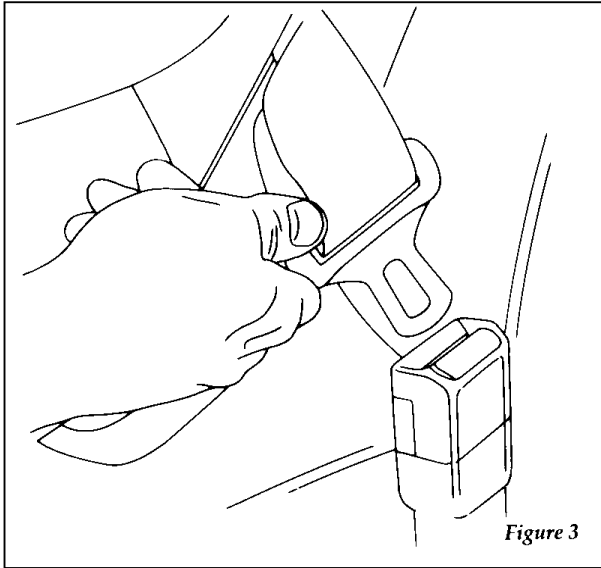

Figure 3
3. While holding the shoulder and lap belt portions together, route the tongue through the child seat according to the child seat manufacturer's instructions. See Figure 2. Be sure the belt webbing is not twisted, and insert the tongue into the buckle. See Figure 3.